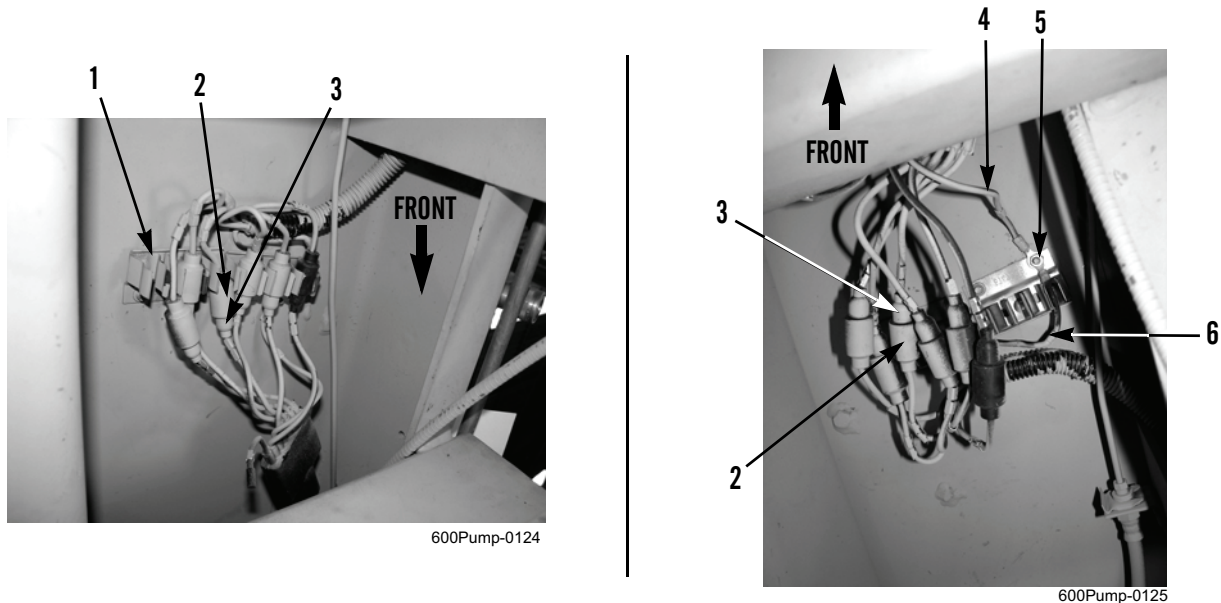

Figure 7. Wiring Harness Junction.
7. Secure intervehicular electrical cable ground wire (Figure 7, Item 4) and trailer wiring harness ground wire (Figure 7, Item 6) with nut (Figure 7, Item 5).
8. Connect intervehicular electrical cable connectors (Figure 7, Item 3) to trailer wiring harness connectors (Figure 7, Item 2).
9. Install intervehicular electrical cable connectors (Figure 7, Item 3) and trailer wiring harness connectors (Figure 7, Item 2) in wiring harness junction (Figure 7, Item 1).